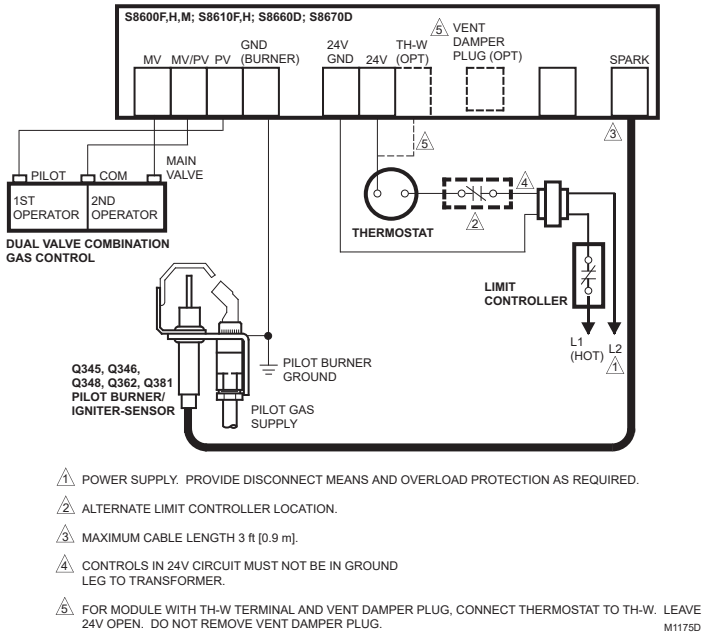

Fig. 2. S8600F,H,M; S8610F,H with a Vent Damper Plug in a Heating System with an Atmospheric Burner and a D80D Vent Damper.
3. Fig. 2 shows S8600F,H,M; S8610F,H with vent damper plug in a heating only atmospheric burner system with D80D vent damper. *Never* use a vent damper in an LP gas system or in a fan-assisted combustion system.